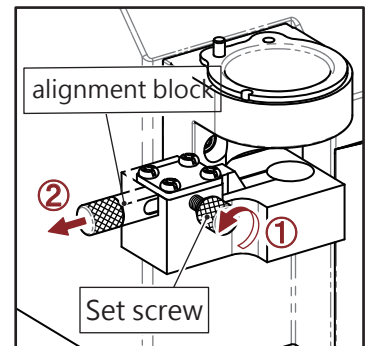

Fig. 7-1
1. Preset the position of the alignment block. (Fig. 7-1)
- ① Loosen the set screw by counterclockwise.
- ② Pull out the alignment block to the end.